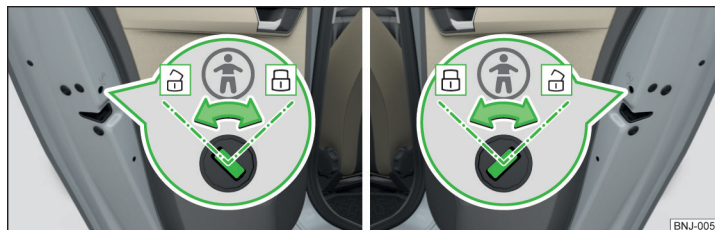

Fig. 48 Rear door: Switching the child safety system on/off
- › **Toturn on** the child safety lock, turn the vehicle key to position  » Fig. 48.